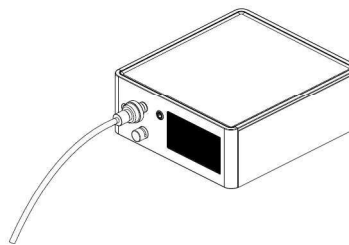

Figure 4-9 The insufflator tube connects with the insufflator (using filter)
3. Connect the installed tube to the CO₂ gas injection interface of the product. Guarantee that the interface is well inserted. As shown in Figure 4-9.